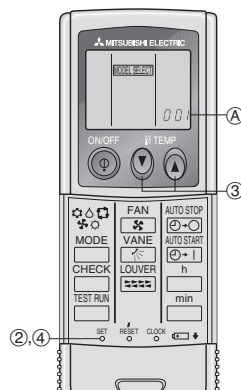

Fig. 6-6
- (1) Attach the remote controller holder to the desired location using two tapping screws.
- (2) Place the lower end of the controller into the holder.
- (A) Remote controller
- (B) Wall
- (C) Display panel
- (D) Receiver
3) Setting (Fig. 6-6)